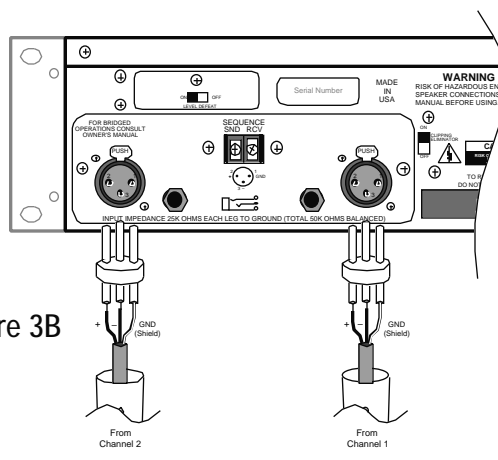

Figure 3B
**XLR:** Use a male XLR connector. Pin 2 carries the (+, hot, non-inverting) side of the signal, Pin 3 carries the (-, low, inverting) side of the signal, and Pin 1 is ground (see Figure 3B).